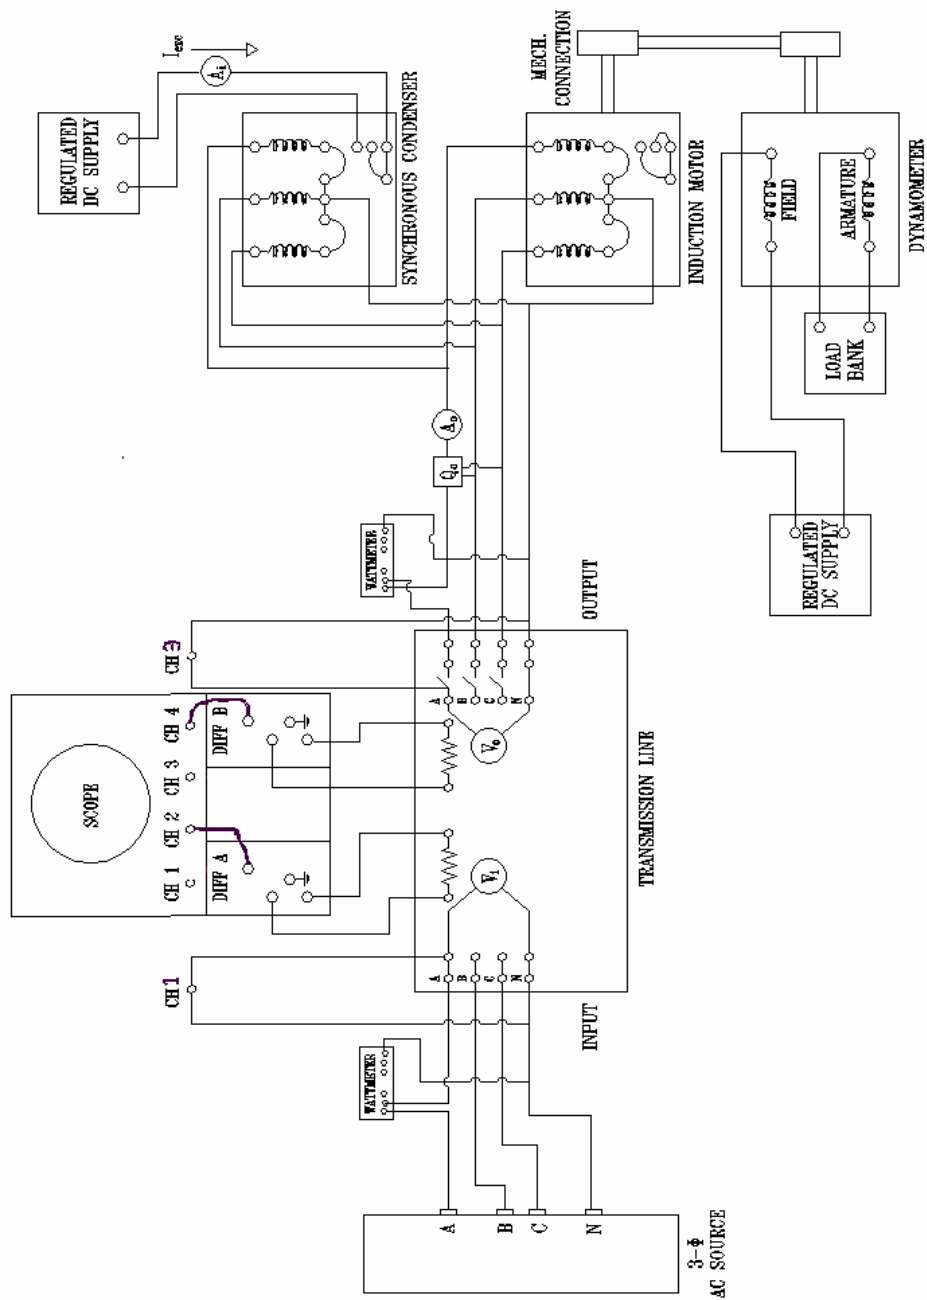

Figure 2: TEST CONNECTIONS
The laboratory set-up is made as shown in Figure 2. All meters are marked to indicate their function in the system. The oscilloscope is connected to read the input voltage on Channel 1 and input current on Channel 2, the output voltage on Channel 3 and output current on Channel 4. This permits measurement of input and output power factor angles and the angle between input and output voltages by merely using the delay function on the oscilloscope. **Note:** Use Probes for Channels 1 and 3.
1. Connect the system shown in Figure 2. Connect the system exactly as it is shown. Failure to do so may preclude measurement of some quantities. Use Figure 3 to connect the analog watt-meter (device Q_0 in Figure 2).